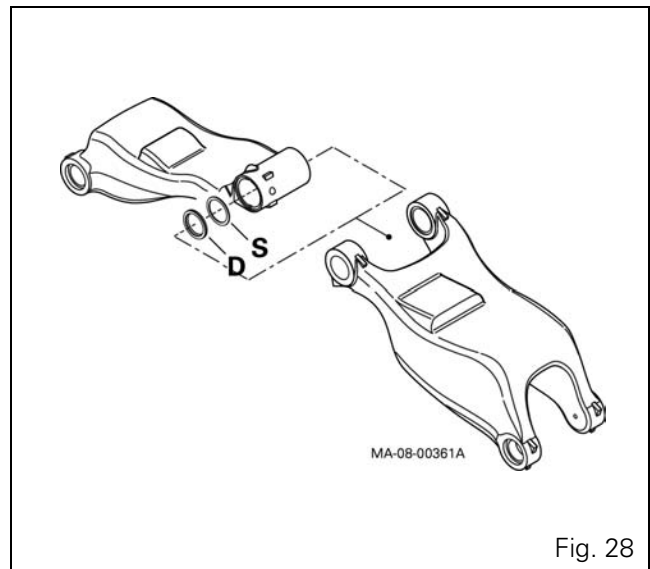

Fig. 28
30. Fit the selected shims S and the spacer D in place of the dummy thrust washer using the special tool ref. CA715348 (see § C) (Fig. 28).